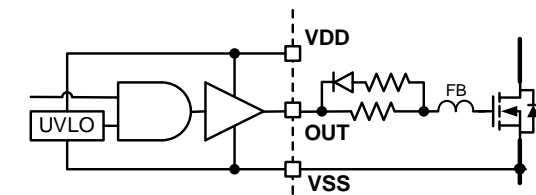

Figure 16: Adding a Ferrite Bead
To solve this potential problem, it is recommended to add a ferrite bead (FB) in the driving circuit (see Figure 16).